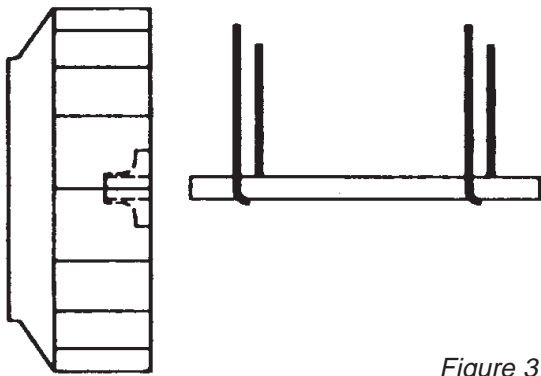

Figure 3
6. Arrangement 1, 9 or 10: Drive Component Assembly (See Figure 3):